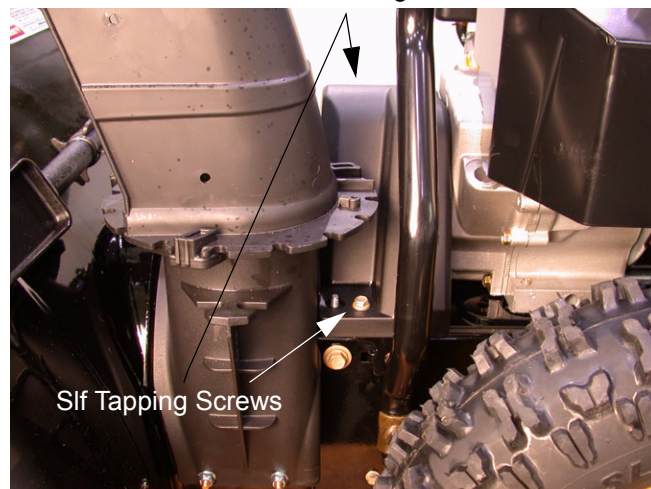

Figure 13
- 8.1. Using a 3/8" socket and extension, remove the two self-tapping screws securing the plastic belt cover to the frame. See Figure 13.